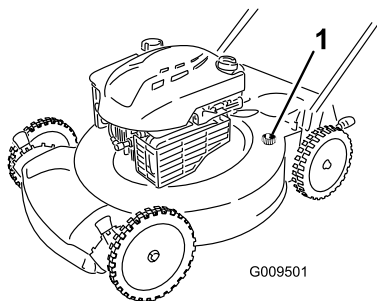

Figure 19
5. Attach a garden hose that is connected to a water supply to the washout port (Figure 19).